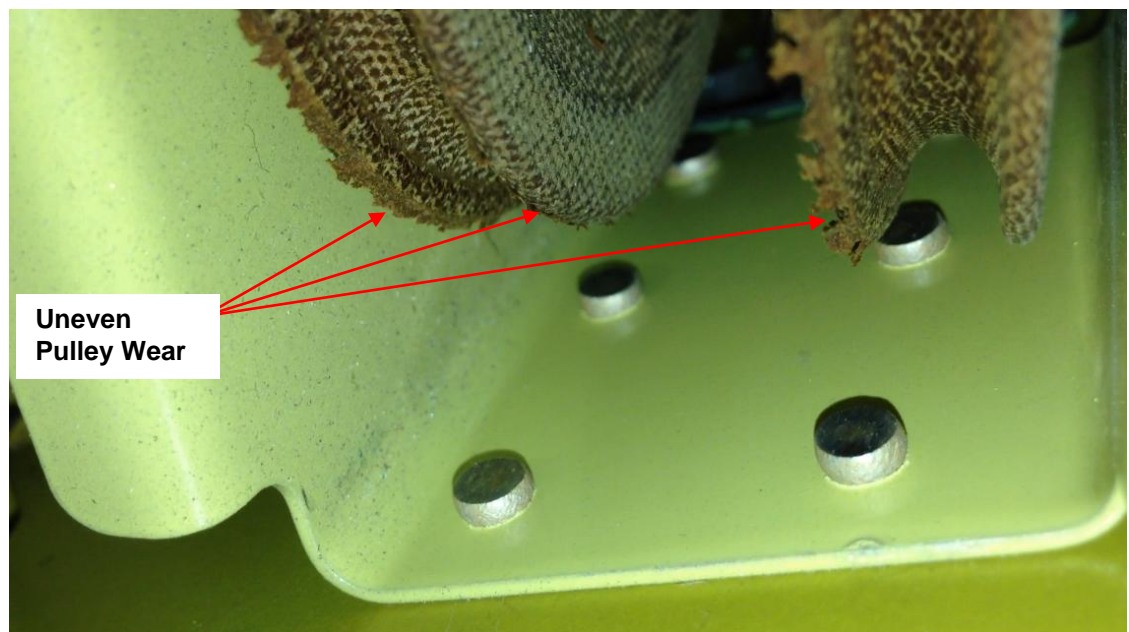

Figure 5-4: Inspection Items
1. Pulleys with uneven wear, as shown in **Figure 5-4**.